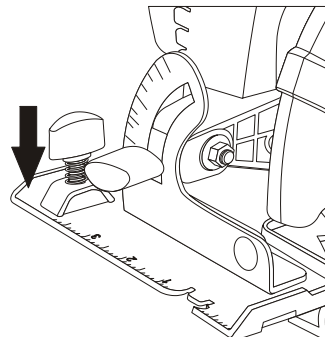

Figure 7
1. Turn the bevel angle locking knob counterclockwise. (Figure 7)